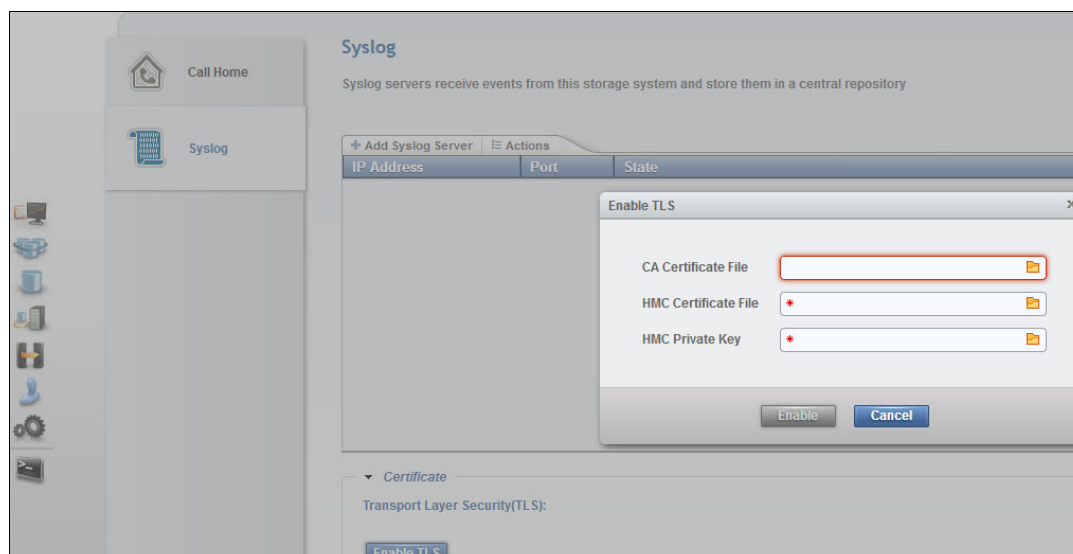

Figure 11-30 Enable TLS window
- a. The certificate authority (CA) certificate file.
5. Click **Enable** to configure TLS, as shown in Figure 11-30.